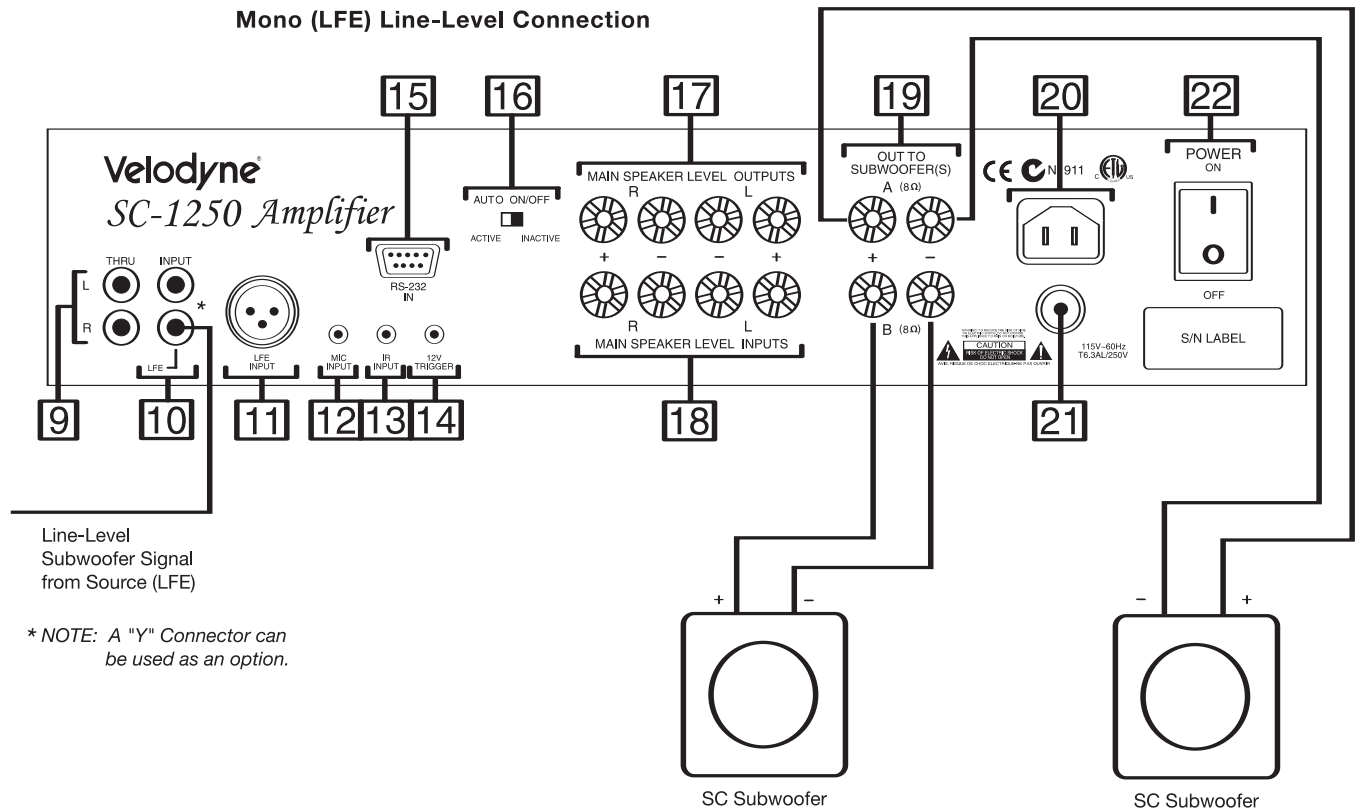

Figure 3A: Mono (LFE) Line-Level Connection.
**(9) Thru Jacks** (See Figure 3A)
**(10) Line Input / LFE Input** (See Figure 3A & 3B)